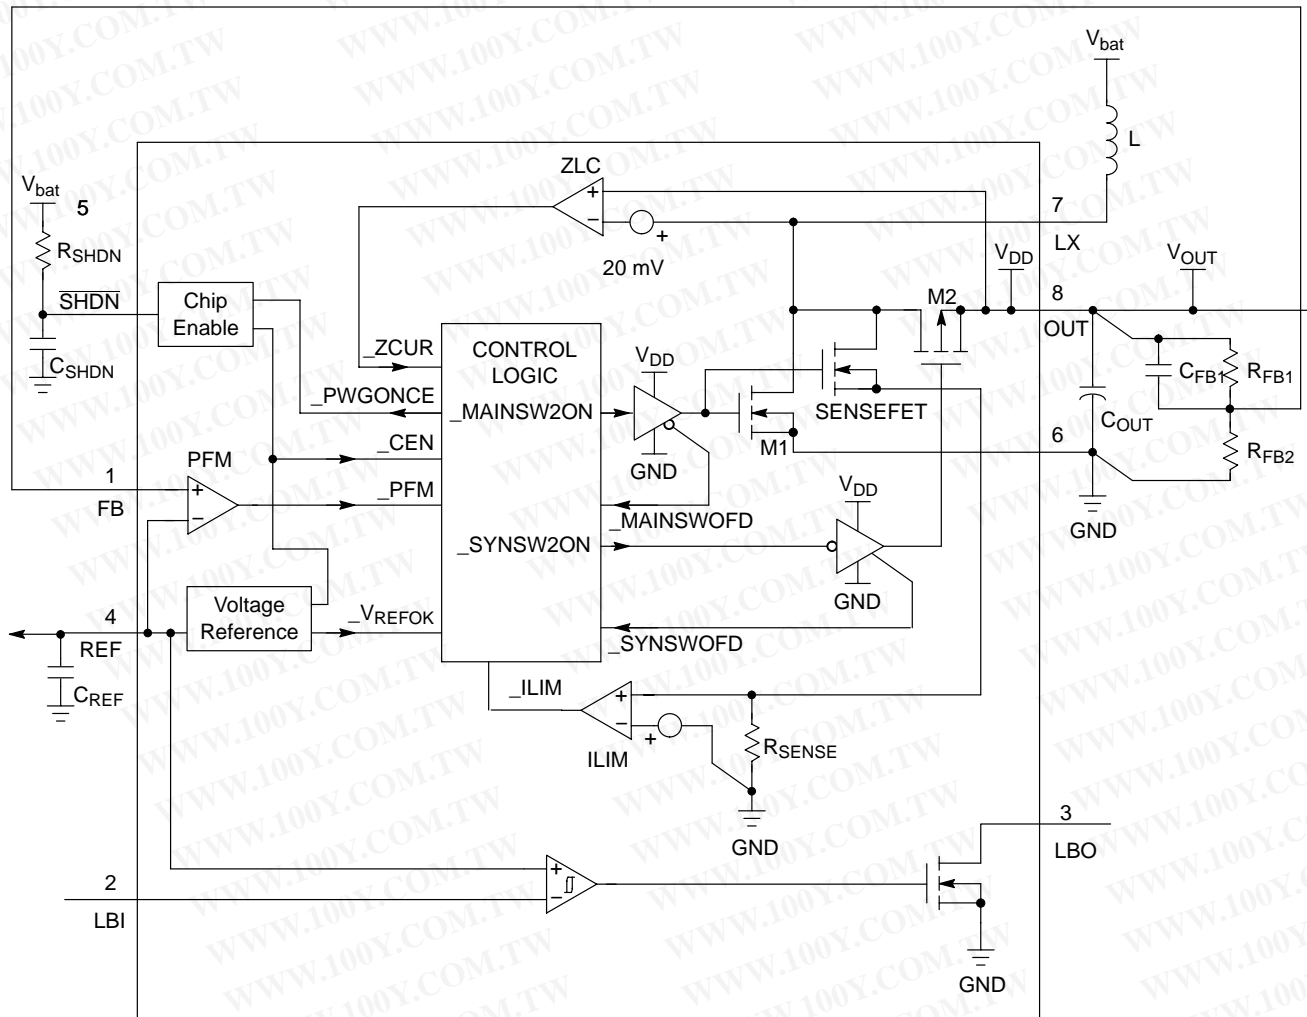

Figure 2. Simplified Functional Diagram
From the simplified Functional Diagram (Figure 2), the output voltage is divided down and fed back to pin 1 (FB). This voltage goes to the non-inverting input of the PFM comparator whereas the comparator's inverting input is connected to REF. A switching cycle is initiated by the falling edge of the comparator, at the moment, the main switch (M1) is turned ON. After the maximum ON-time (typical 1.4 μ S) elapses or the current limit is reached, M1 is turned OFF, and the synchronous switch (M2) is turned ON. The M1 OFF time is not less than the minimum OFF-time (typical 0.31 μ S), this is to ensure energy transfer from the inductor to the output capacitor. If the regulator is operating at continuous conduction mode (CCM), M2 is turned OFF just before M1 is supposed to be ON again. If the regulator is operating at discontinuous conduction mode (DCM), which means the coil current will decrease to zero before the next cycle, M1 is turned OFF as the coil current is almost reaching zero. The comparator (ZLC) with fixed offset is dedicated to sense the voltage drop across M2 as it is conducting, when the voltage drop is below the offset, the ZLC comparator output goes HIGH, and M2 is turned OFF. Negative feedback of closed loop operation regulates voltage at pin 1 (FB) equal to the internal voltage reference (1.190 V).
From Figure 2, SENSEFET is applied to sample the coil current as M1 is ON. With that sample current flowing through a sense resistor, sense-voltage is developed. Threshold detector (ILIM) detects whether the sense-voltage is higher than preset level. If it happens, detector output signifies the CONTROL LOGIC to switch OFF M1, and M1 can only be switched ON as next cycle starts after the minimum OFF-time (typical 0.31 μ S). With properly sizing of SENSEFET and sense resistor, the peak coil current limit is set at 1.0 A typically.
The IC is shutdown when the voltage at pin 5 (\overline{SHDN}) is pulled lower than 0.3 V. During shutdown, M1 and M2 are both switched OFF, however, the body diode of M2 allows current flow from battery to the output, the IC internal circuit will consume less than 0.05 μ A current typically. If the pin 5 voltage is pull higher than 0.6 V, for example, by a resistor connected to VIN, the IC is enabled, and the internal circuit will only consume 9.0 μ A current typically from the OUT pin. Refer to Figure 2, the product of R_{SHDN} and C_{SHDN} must be larger than (500 k \cdot 56 nF, i.e. 28 msec). This is to provide reset pulse for startup as battery is plugged in.